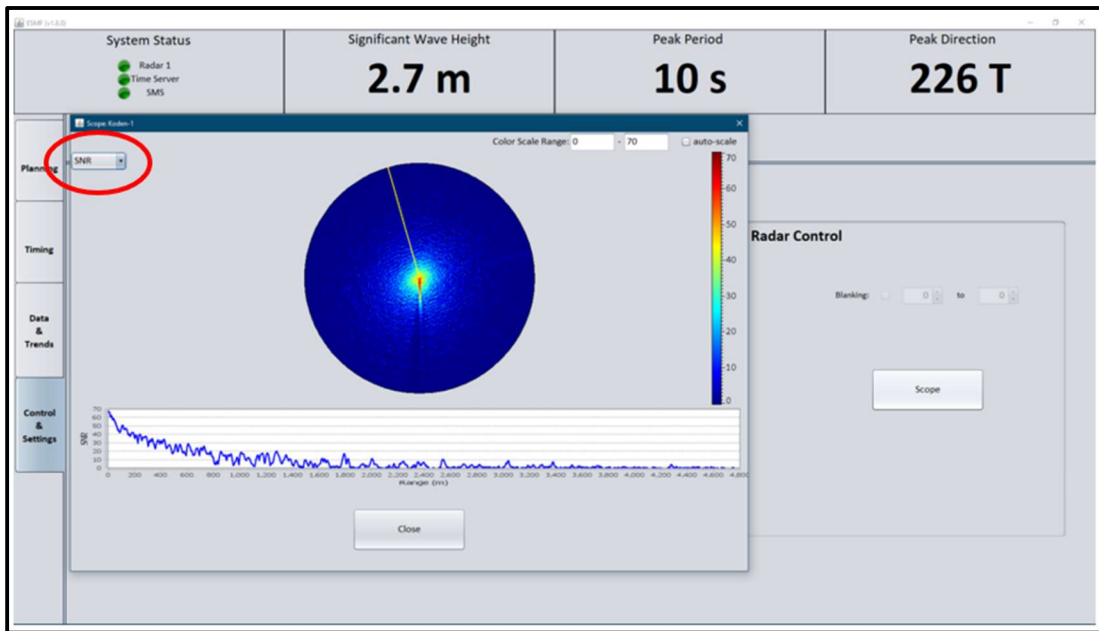

Figure 6: Locate the ‘SNR’ Button and show the Radar Scope displaying data in the **Radar-1 Tab**.
9. (Refer to Figure 6) Once the ‘Connecting...’ text is no longer displayed, the radar scope is connected and should be displaying data. Select ‘SNR’ from the drop-down on the upper-left of the dialog. Reflections in the scope should appear similar to that in Figure 6, depending on objects nearby. If the scope is not showing any data (solid grey), the RPU may not have completed its startup cycle.